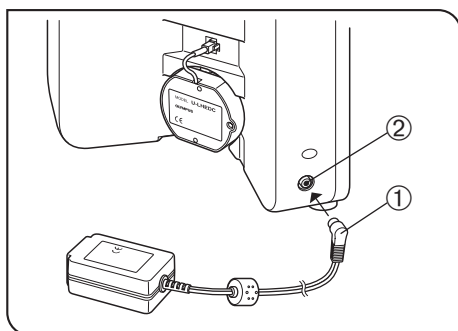

Fig. 40
(Fig. 40)
- Make sure that the main switch is set to “○” (OFF) before connecting the power cord (Fig. 40).
1. Insert the connector ① of the AC adapter firmly into the connector ② on the microscope.